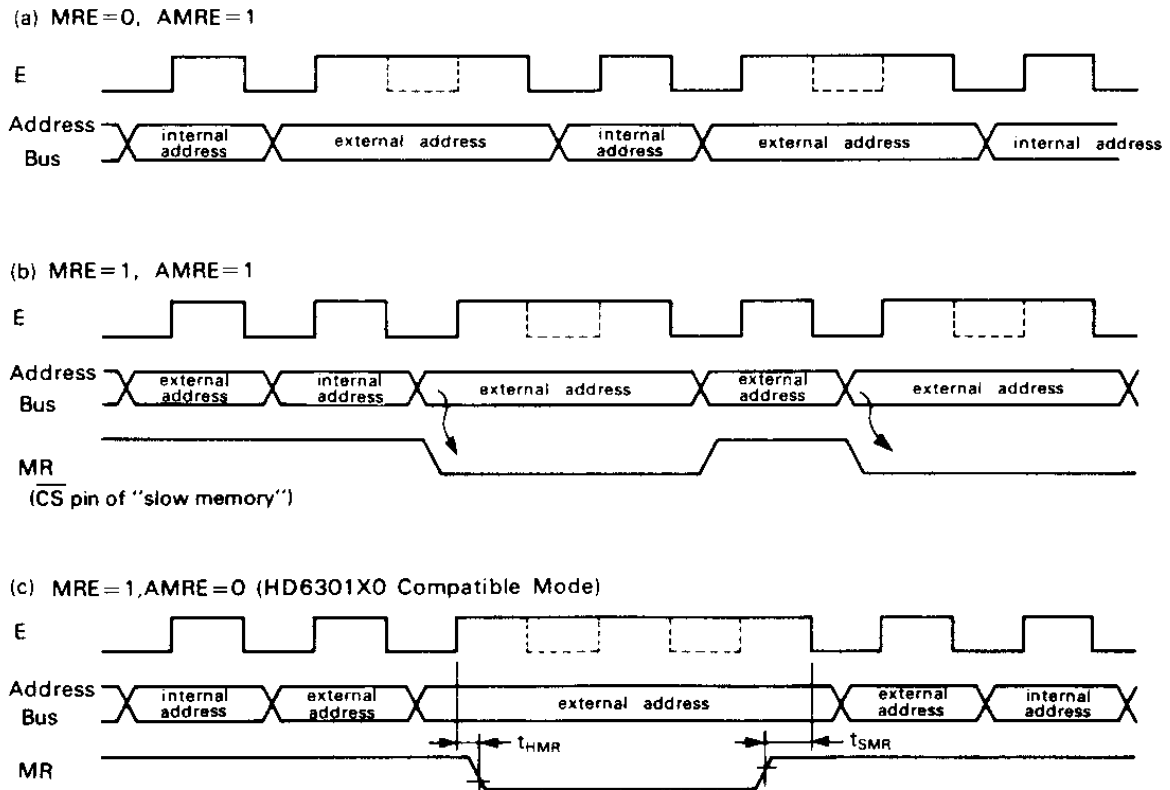

Figure 17 Memory Ready Timing
When the bit is set and the CPU accesses the external address, "memory ready" operates automatically and stretches the E clock's "High" duration for one system clock. When MRE bit of bit 2 is cleared and when the CPU accesses the external address space, the function operates. When MRE bit is set and then the CPU accesses the external address space with P₅₂ (MR) pin in "low", "memory ready" operates automatically. In Mode 3, regardless of the bit value, the "auto memory ready" function is inhibited. (See Table 3 and Fig. 17.)